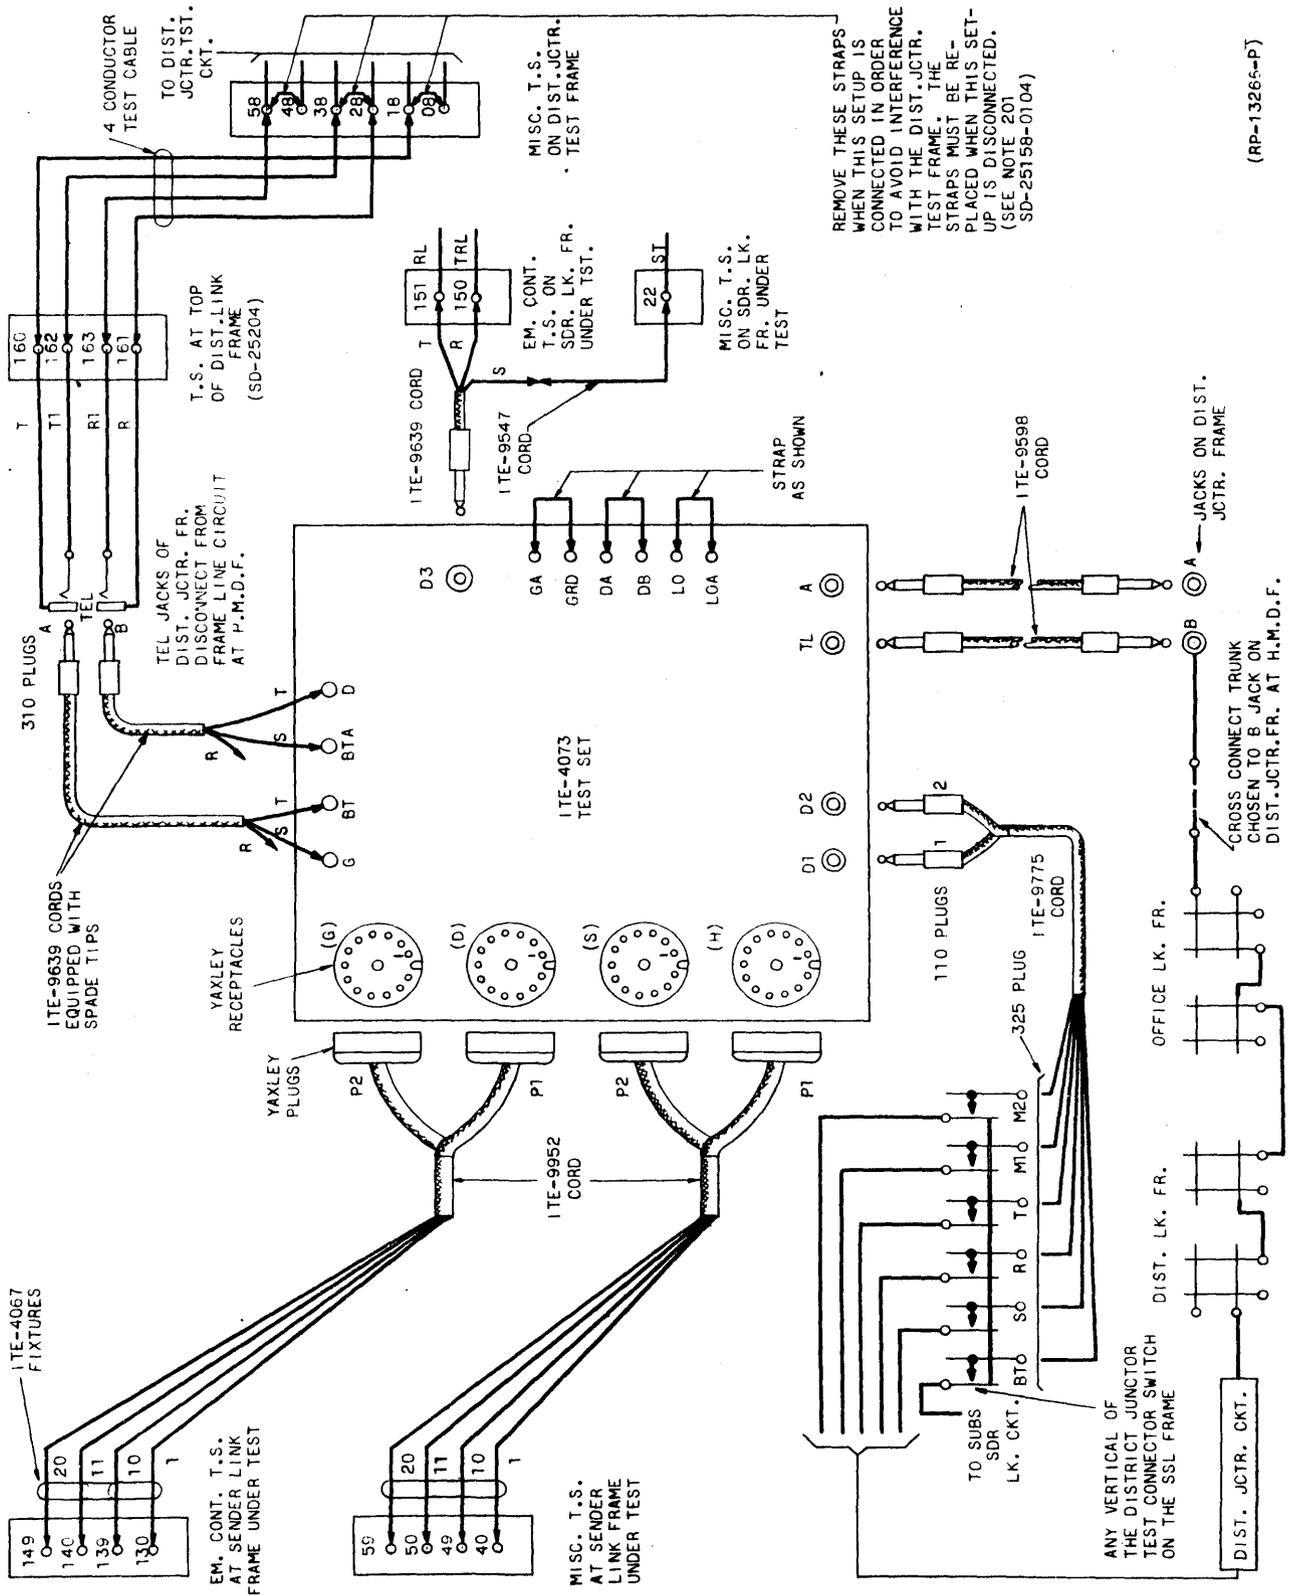

FIG. 1 SETUP FOR TEST USING ITE-4073 TO SUPPLEMENT TEST FRAME
5.1 Setup for Test (See Figure 1)